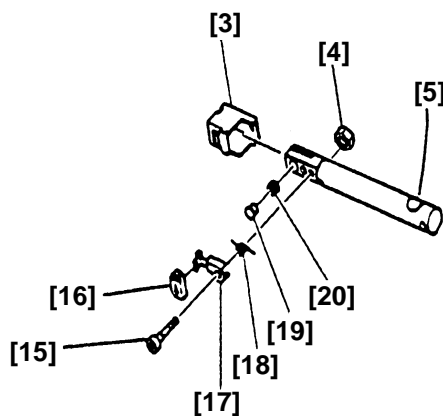

Fig. 4
(3) Removal of the saw blade mount (Fig. 4)